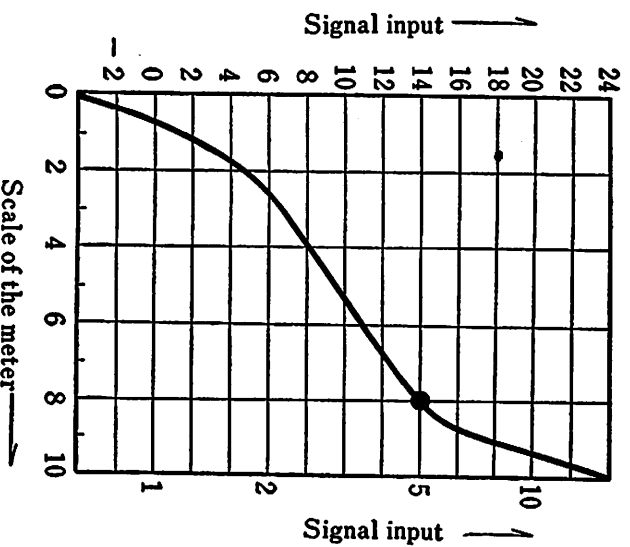

Figure 7-1
Meter ④ indicates the strength of the incoming signal in the receiving process, and the comparative value of power of transmission in the transmitting process. During reception of transmitted signal, the magnitude of the incoming signal to swing the pointer 8 graduations is equivalent to about  $5\mu\text{V}$  (14 dB). The indication of the output of the transmitted signal is arranged in about 8 graduations. See Figure 7-1 for the relationship between the incoming signal in reception and the scale of the meter.